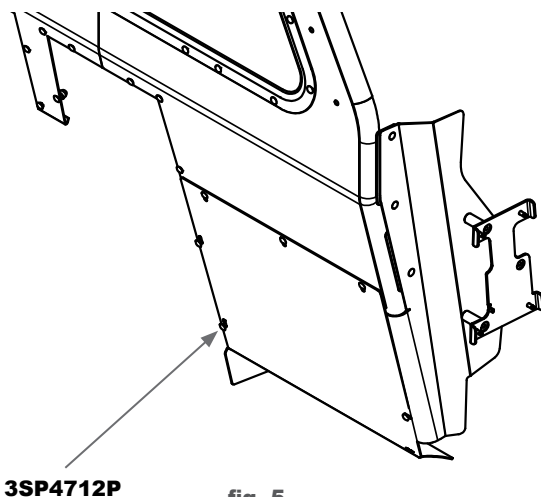

fig. 5
C. Place the passenger's side bucket seat protector (3SP4712P) in the vehicle from the front and set in location. Get all bolts started and tighten to secure. (See main diagram on page 6 and fig. 5)